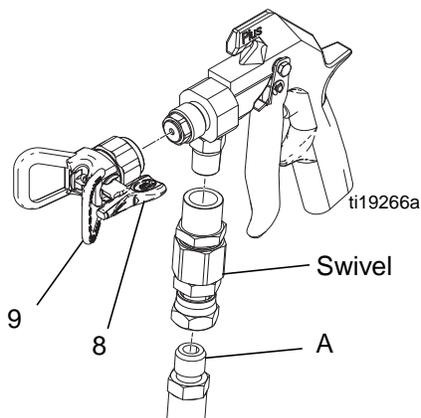

FIG. 2
1. Connect a fluid hose (A) to the gun inlet. Use swivel 207946 or 24P834 if desired (order separately). See Fig. 2.
2. With SwitchTip (8) and tip guard (9) removed, start the pump. Flush the pump according to the instructions supplied with it. Use the lowest pressure possible.
5. Install the SwitchTip (8) and tip guard (9). See FIG. 2.